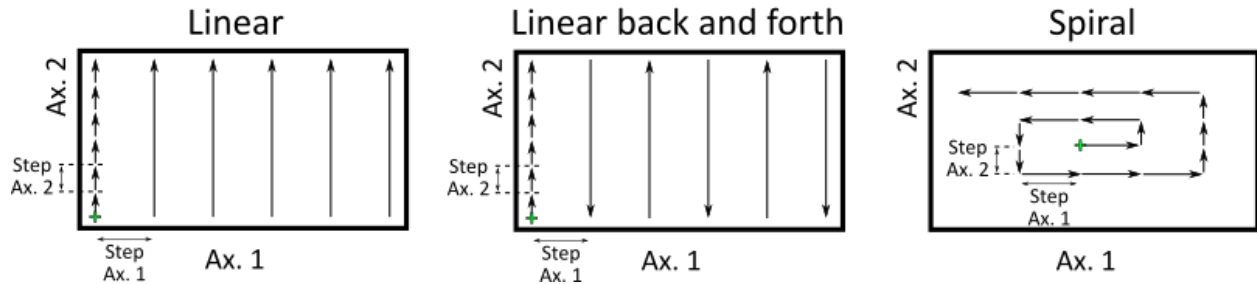

Fig. 7.35: The main Scan2D subtypes: Linear, Back and Forth and Spiral.
- **Scan subtype:** See Fig. 7.35 either *linear* (scan line by line), *linear back and forth* (scan line by line but in reverse direction each 2 lines), *spiral* (start from the center and scan as a spiral), *Random* (random sampling of the *linear* case) and *Adaptive* (see *Adaptive*)